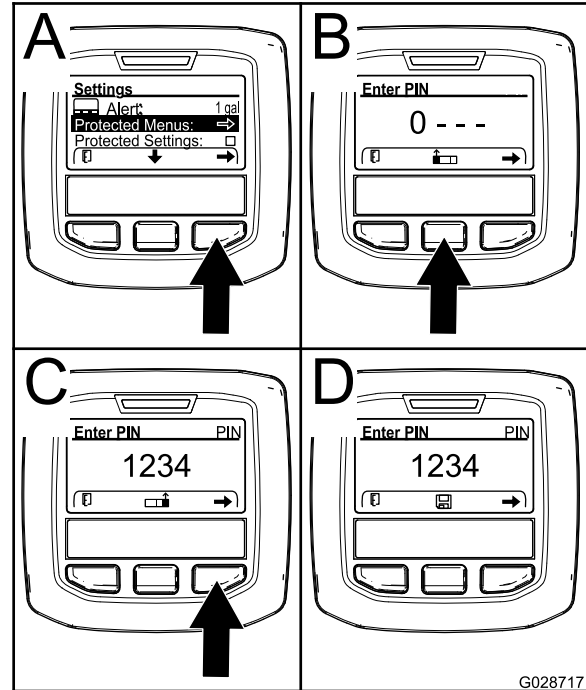

Figure 62
4. Press the right select button to select Protected Menu (A of Figure 62).
- Press the center selection button (B of Figure 62) to increase the numerical value (0 to 9)
- Press the right selection button (C of Figure 62) to move the cursor to the next numerical position to the right.
Note: The Save icon will appear above the center selection button (D of Figure 62).